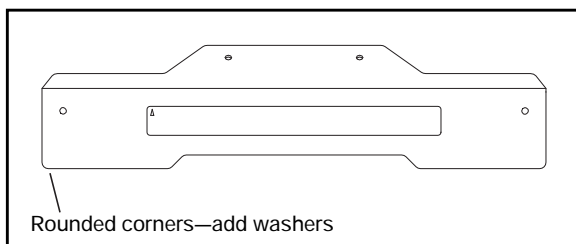
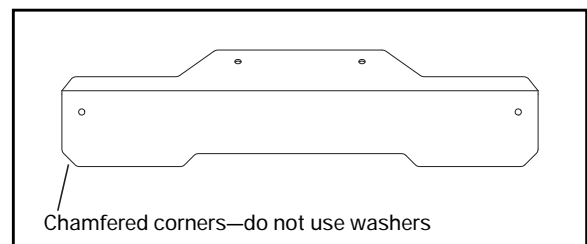
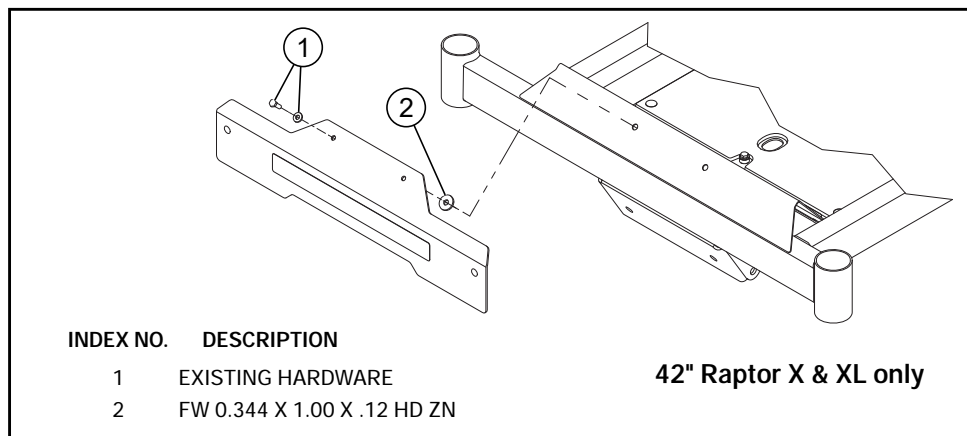

FIG. 1
FIG. 2
FIG. 3
Some 42" Raptor® X & XL mowers require that two (2) washers be added to the footrest to provide clearance for the Flex Forks®. If the front cover has rounded corners (Fig. 1), then remove the front cover and add two (2) washers as shown in Fig. 3. Mowers with chamfered corners (Fig. 2) on the front cover do not use the additional washers.